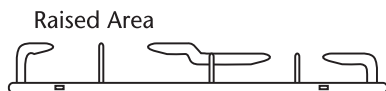

Figure 2
2. Check that the burner rings are placed correctly (see Figure 2).
The trivets above the wok burner are different from the other burners. Note the raised area for the wok on the pan support (see Figure 2).